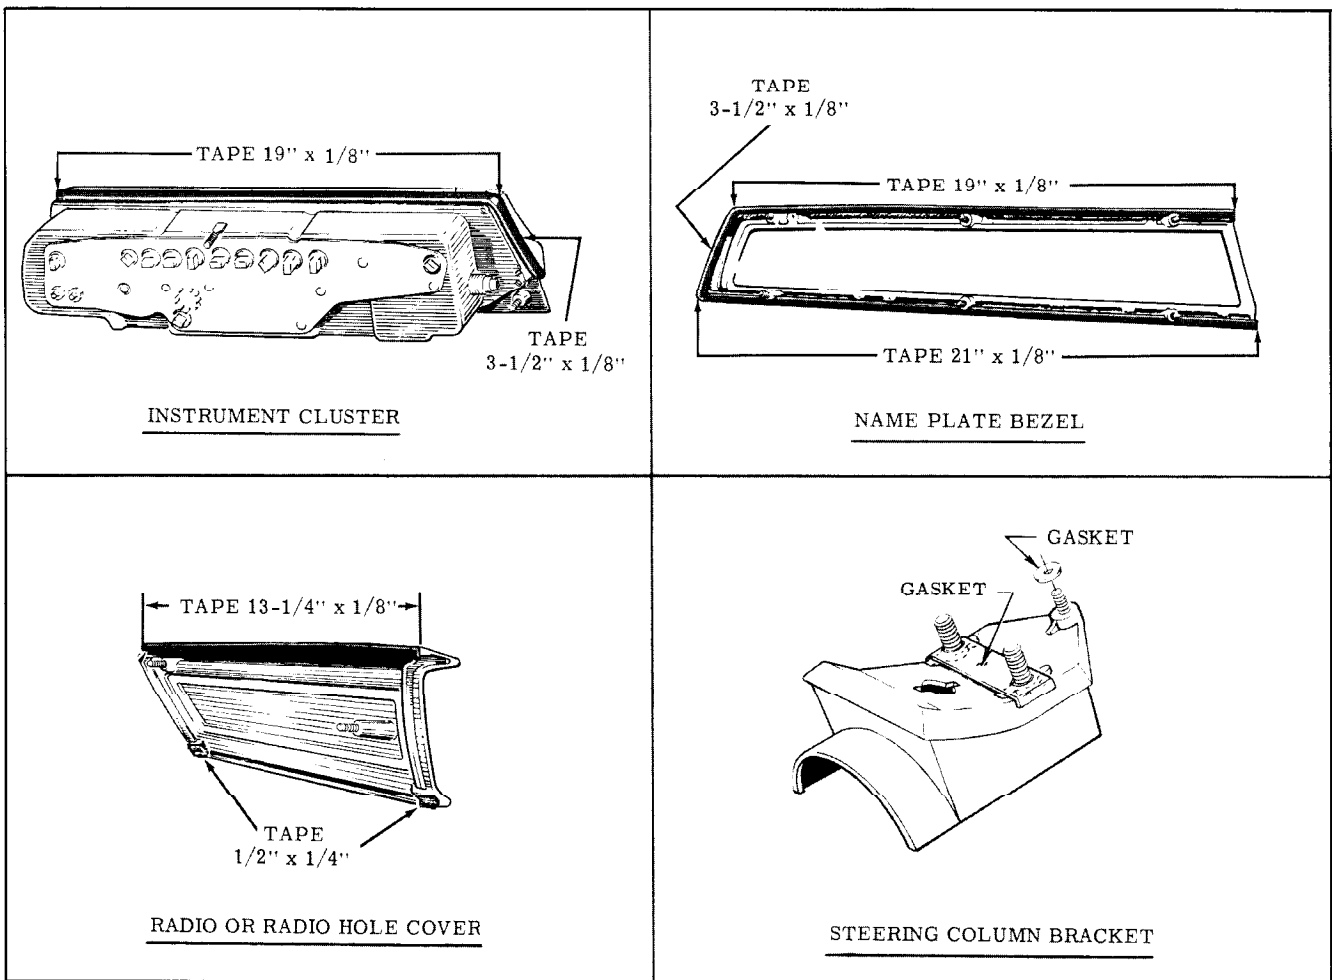
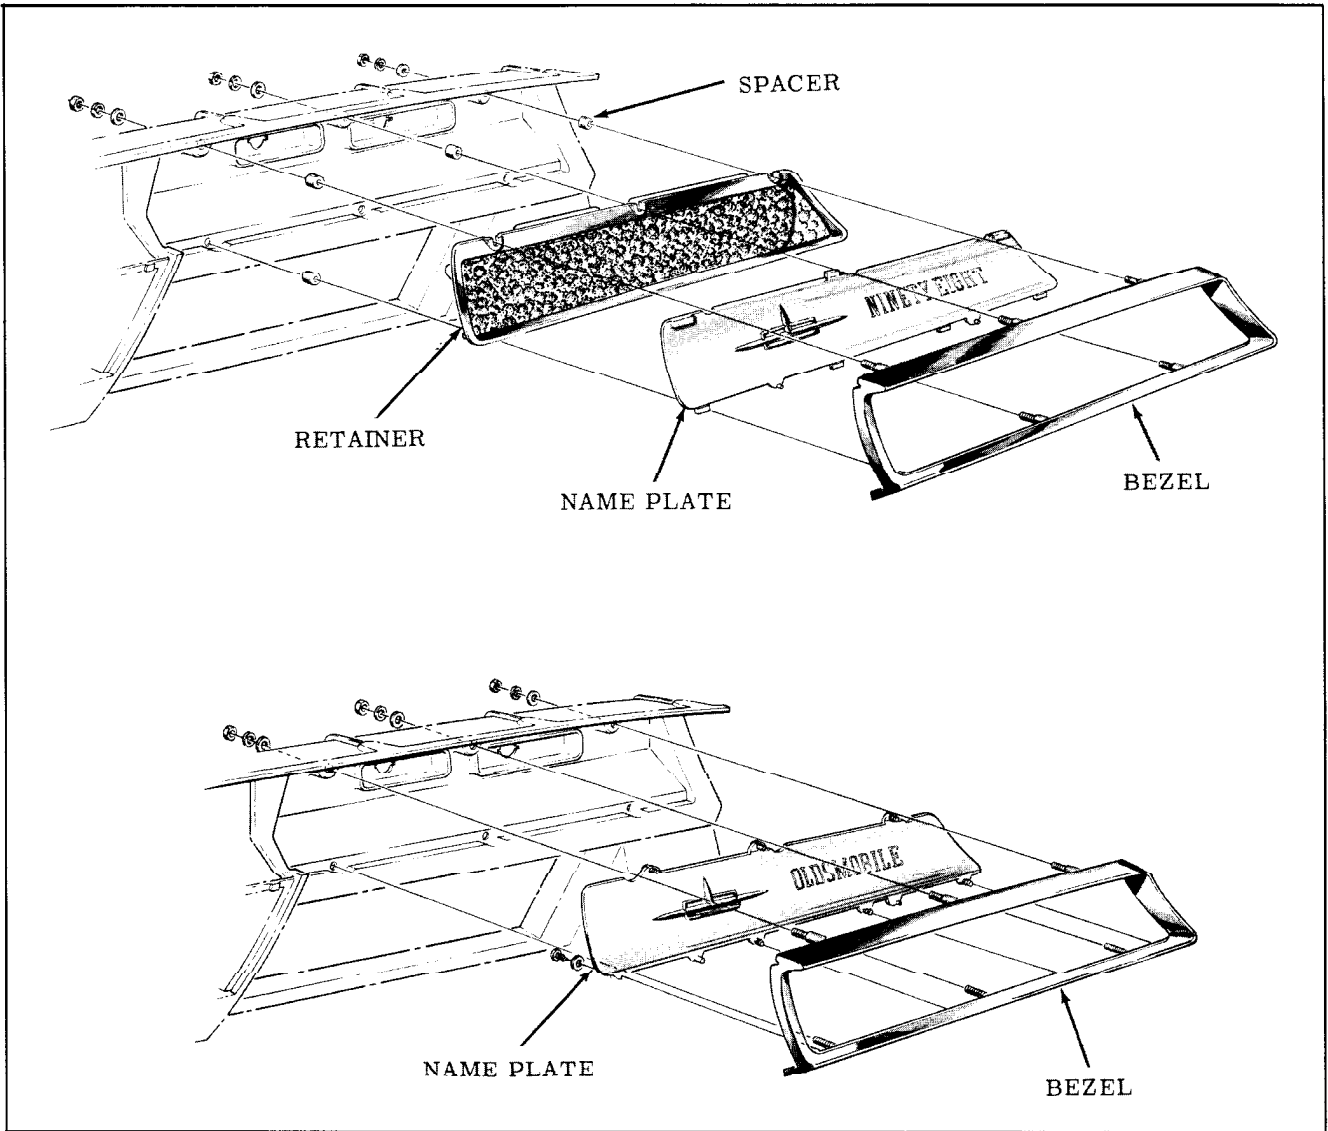

Fig. 15-4 Anti-Squeak Application
Fig. 15-9 Name Plates
5. To install, reverse removal procedure. Be sure anti-squeak (black cloth tape) is installed as shown in Fig. 15-4.
The steering column bracket is fastened to the instrument panel by 3 studs, washers, and nuts. Anti-squeak gaskets are used between the steering column bracket and the instrument panel. (Fig. 15-4)
The name plate is attached as shown in Fig. 15-9. When installing name plate be sure anti-squeaks (black cloth tape) are installed as shown in Fig. 15-4.
On cars equipped with a rear seat speaker, a variable type control located behind the manual tuning knob modulates both the front and rear speakers simultaneously. (Fig. 15-9) As the control is turned counterclockwise, the volume of the front speaker increases while the volume of the rear speaker decreases. As the control is turned clockwise the volume of the front speaker diminishes while the volume of the rear speaker increases. After the desired speaker modulation is obtained, the volume of both speakers can be regulated by the volume control knob.